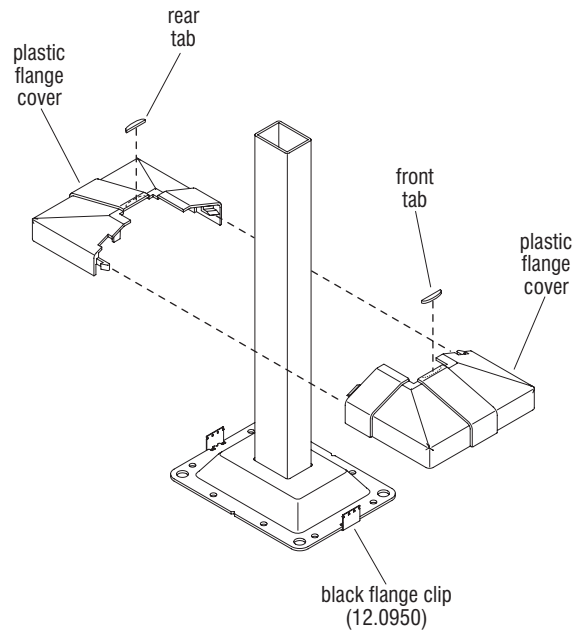

Figure 14
35. To install the plastic flange covers (floor mounted bases only), first locate the front and rear tabs on the covers and remove. Take care to not remove the side tabs for this application. Snap the flange covers together around the column and press down to engage the flange clips. Push tight to the floor (Figure 14).